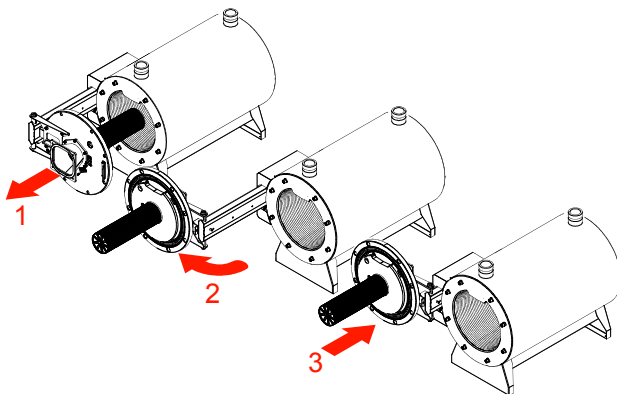

Figure 33: Burner Door Opening
- e. This unit is equipped with a sliding mechanism shown in Figure 33. Position (1) burner assembly slides out of the combustion chamber, (2) rotate away from the combustion chamber and (3) sliding back to allow full access to the combustion chamber for inspection and service.